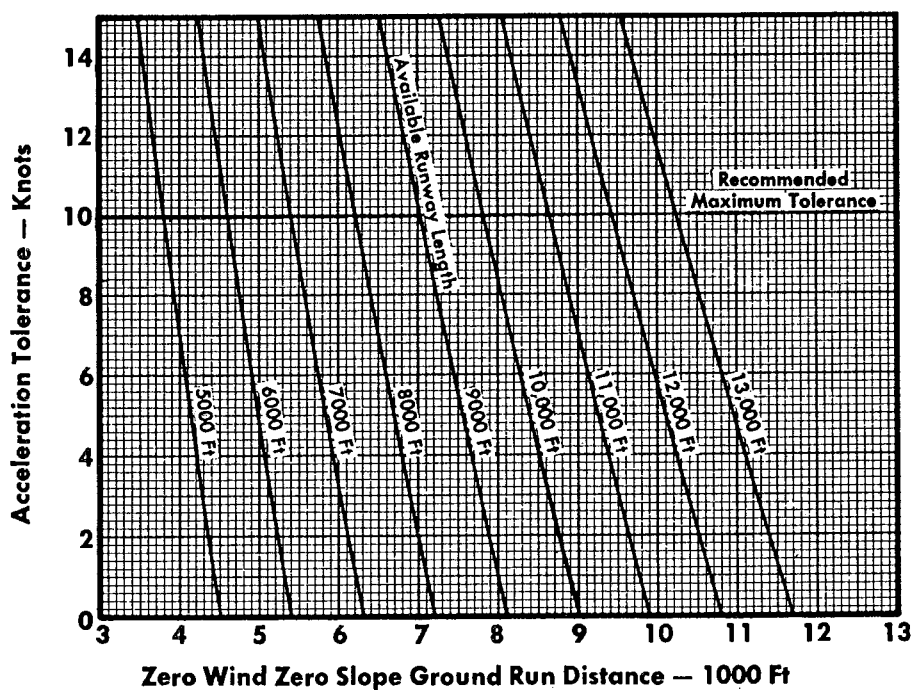

Figure A2-9
- j. From Figure A2-9, the allowable speed tolerance is higher than the 10 knots maximum recommended speed tolerance. The zero wind go, no-go speed is 162 KIAS (172 - 10 knots).